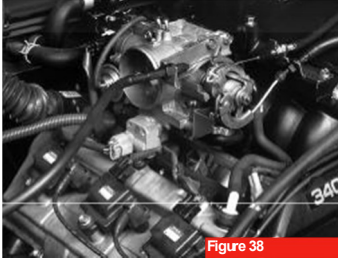

Figure 38
14. Using your diagrams, and those in the back of this manual, double check the routing of vacuum hoses, cables and brackets and correct any problems (figure 38).